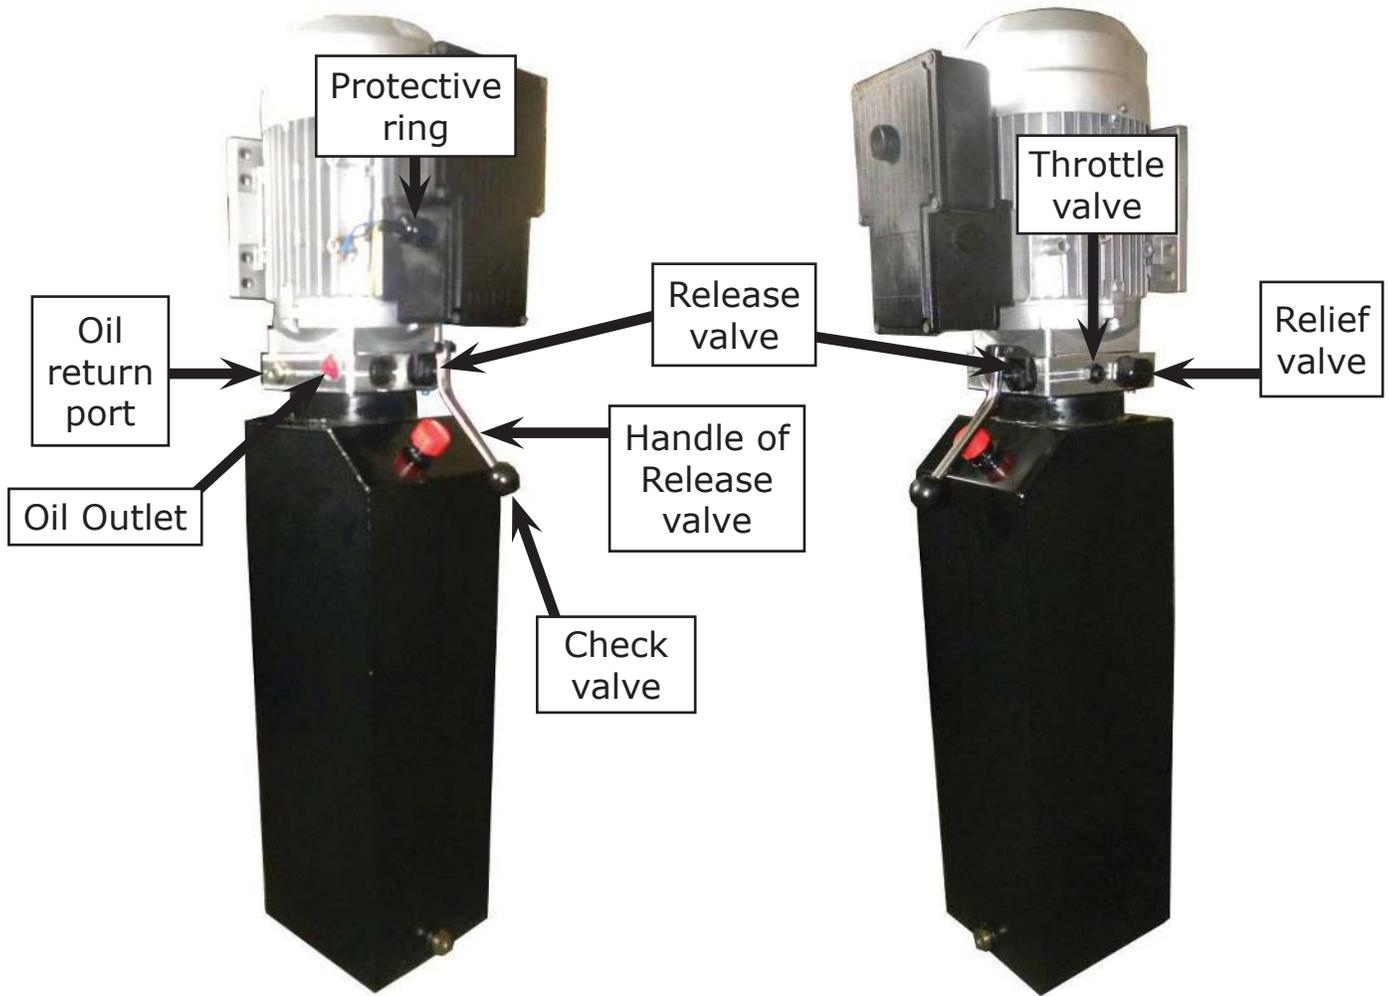

Fig. 46
a. Atlas manual power unit, 220V/60HZ, Single phase (See Fig. 46)